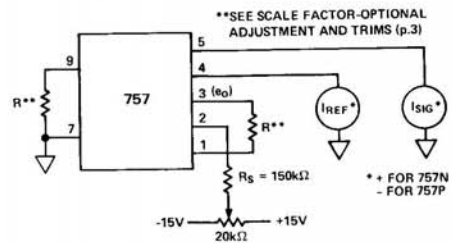

Figure 3. Output Voltage Offset Adjustments
**Output Voltage Offset** – Output voltage offset must be adjusted after the desired scale factor is established as indicated above. To adjust the offset, inject equal dc input currents into the reference and signal channels. The value of the input currents should approximate the average input current levels expected to be encountered in normal operation. Adjust the potentiometer shown in Figure 3 until the output voltage is zero.